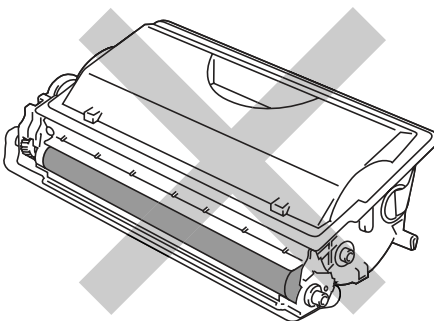

Figure 6-10
- Do not touch the shaded parts shown in Figure 6-10 and 6-11.